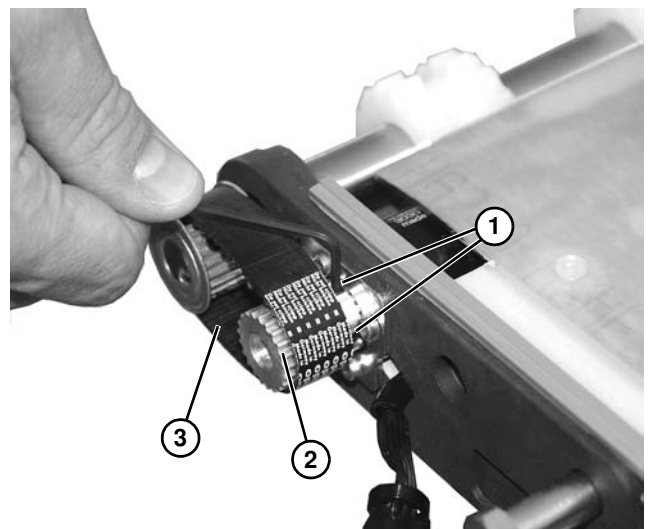

Figure 65
7. Loosen two set screws (**Figure 65, item 1**) on drive pulley (**Figure 65, item 2**). Slide drive pulley outward off of the gearmotor shaft, and remove timing belt (**Figure 65, item 3**).